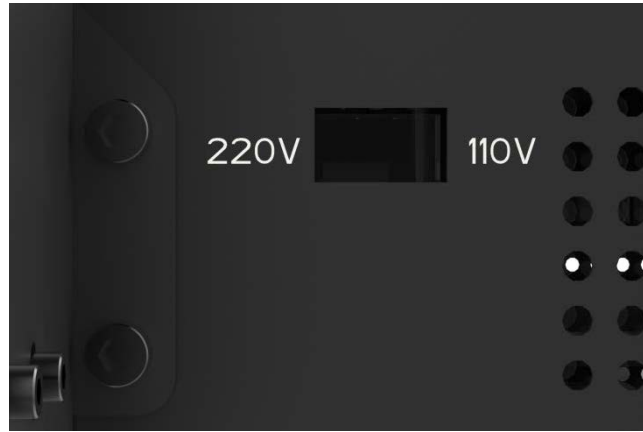

Figure 3
(1) **Fig.3**, select the correct voltage mode according to your local voltage ratings (110V/220V). The switch is inside the bottom left of the base and 220V is default. Allan keys can be used to move the switch inside.